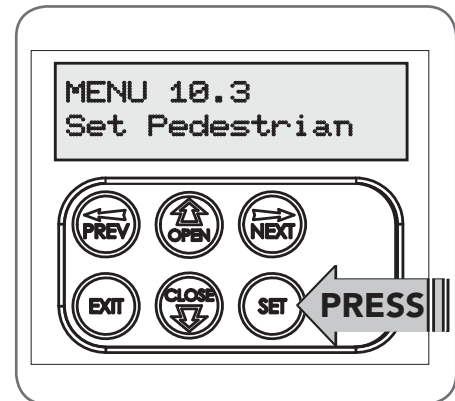

Fig 14.1
- Press SET to enter Set Pedestrian procedure (**Fig. 14.1**).